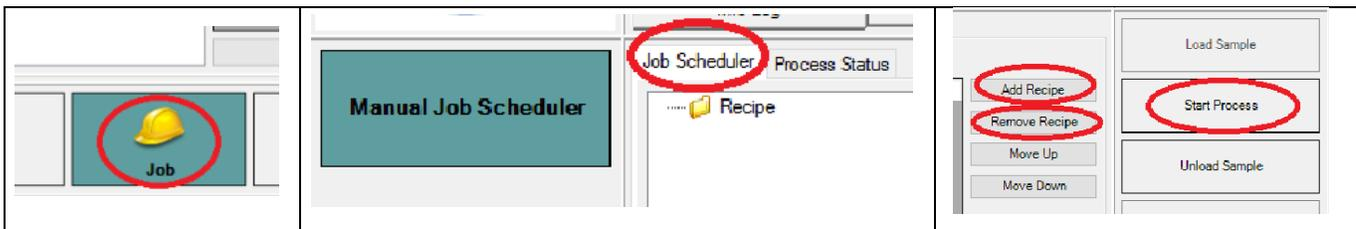

Figure. 17
27. Go to “Job Scheduler”. (Figure. 17)
28. Now start the measurement by clicking on “Start Process”. (Figure. 17)